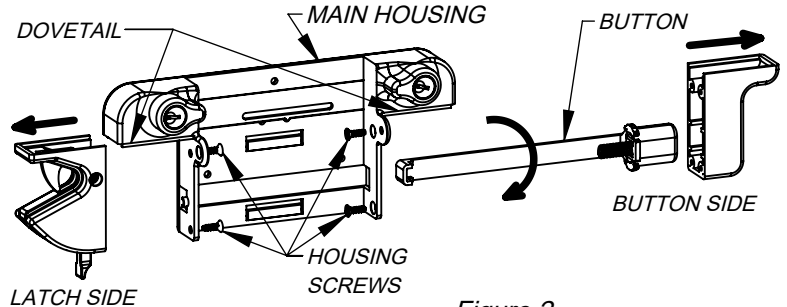

Figure 2
Remove the (4) housing screws (Figure 2). Slide the latch assembly from the main housing. Slide the button assembly from the main housing. Remove the button from the button housing, rotate the button 180°, and reinstall the button into the button housing, taking care to leave the spring in the button.